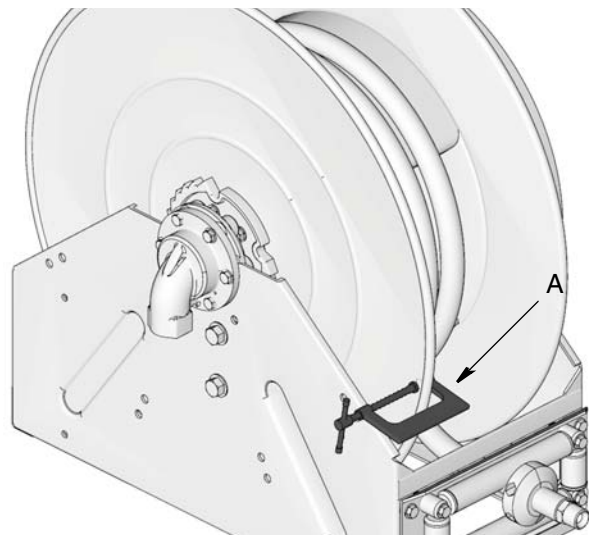

FIG. 77
- Attach a c-clamp (A) to the reel spool as shown in FIG. 77 to help prevent the reel from unintentionally becoming unlatched and spinning freely.